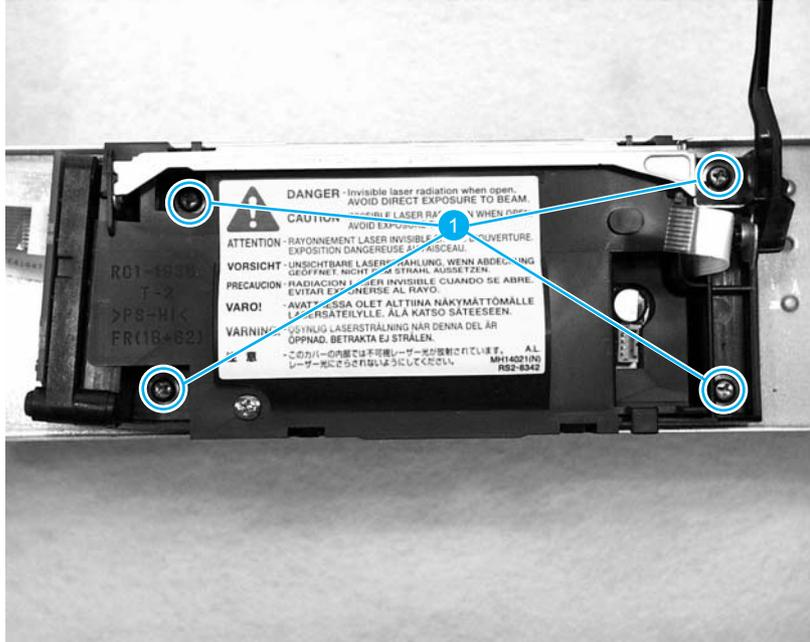

Figure 5-30. Removing the laser scanner assembly
- Remove four screws (callout 1, figure 5-30).